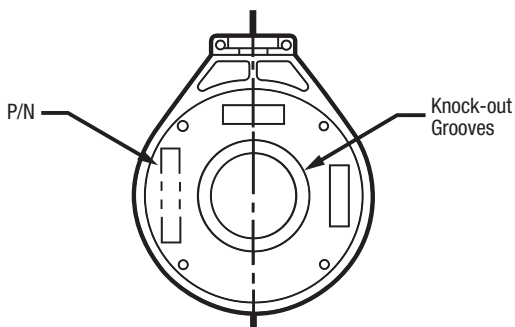

Figure 2 - Groove Guides
1. One or more groove guides can be found on the inside face of the end cover. These will conform to shaft diameters equal to or greater than bearing bore sizes for that particular series. Prior to mounting, use a utility knife to score bottom of groove from inside of end cover to a diameter consistent with your shaft size (Figure 2).